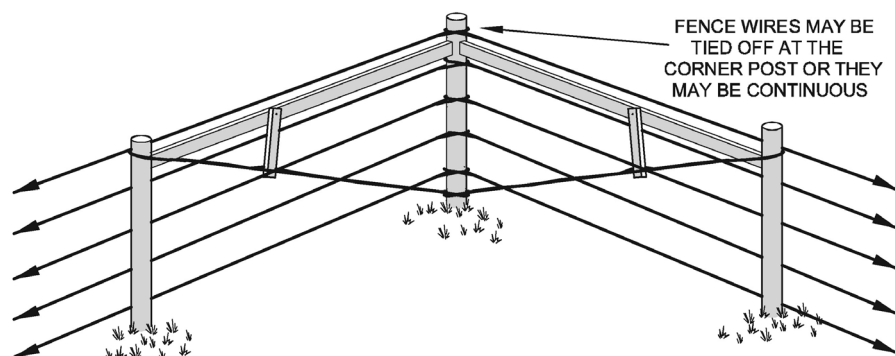

Figure 14 Shared-Post Brace at a Corner (for changes greater then 60°)
- for 60° to 90° corners use a standard shared-post corner brace as in Figure 14
For changes of fence direction from 60° to 90°, a normal shared-post corner will be effective (Figure 14, below). This brace can be used at a tie off corner or used between tie points with the fence wires continuous around the brace (in this case special stapling techniques are used to reduce wire-to-post friction around the corner post ensuring flexibility of the wires when loaded; refer to Factsheet 307.100-2 *Fence Wire: - Dispensing, Stapling, Joining, Tying, Tensioning and Grounding*).
For changes of direction greater than 60° use the brace in Figure 14, previous page.